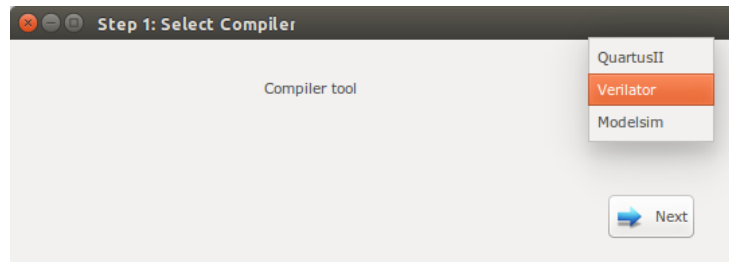

Figure 5.19: Select Verilator compiler.
1. Press the  Compile RTL button in right down corner. This should open "select compiler window" as shown in Figure 5.19. Select Verilator as compiler tool then press  Next.